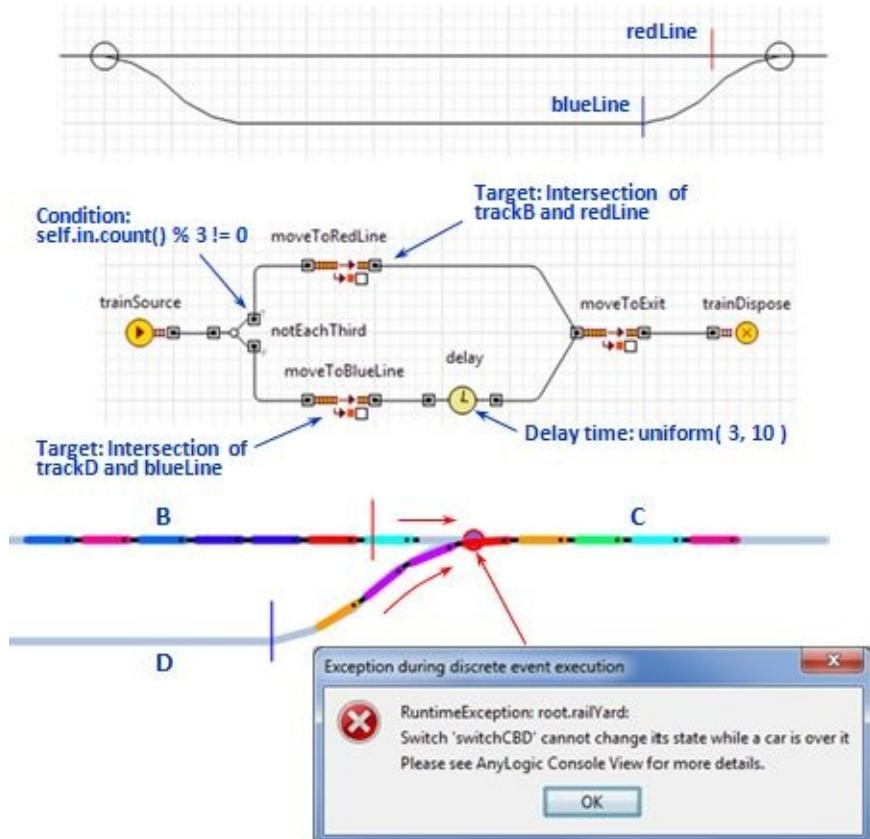

Figure 9.14 The unsafe train movement flowchart and the collision detected by the library
2. Open the Presentation palette and draw two short vertical lines: *redLine* crossing the *trackB* at X=800, and *blueLine* crossing *trackD* at X=750 (see Figure 9.14).
As long as the time the trains spend at *trackD* is nondeterministic and can be greater than the time interval between trains (5 minutes), collisions at *switchCBD* will inevitably occur. The error message you are getting (see Figure 9.14) is typical for that type of collision: while the train exiting *trackD* is still moving over the *switchCBD*, another train from *trackB* approaches the switch and tries to change its state (in this case as a result of trailing point movement).